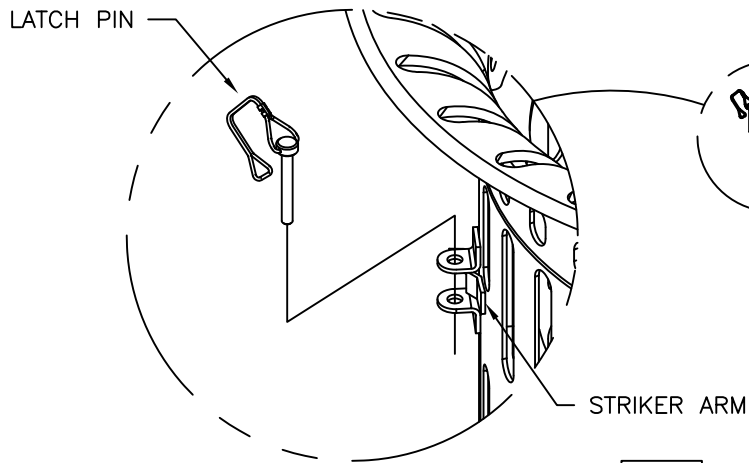

FIG. 2
STEP 1: Rotate receptacle door to closed position; striker arm makes contact with trash receptacle. Open latch pin (Q), engage pin into holes on trash receptacle and close latch pin. See FIG. 2.